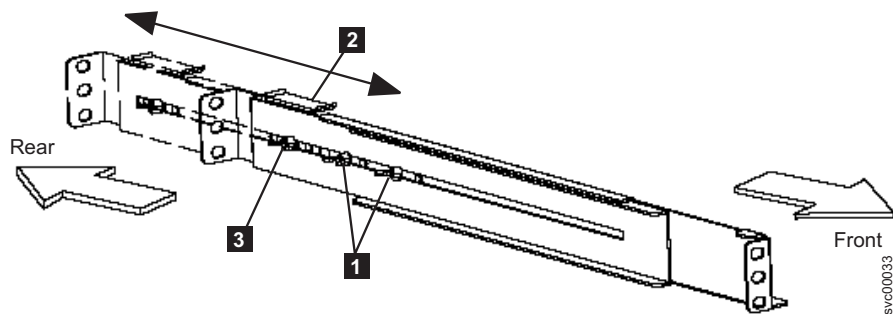

Figure 19. Adjusting the rail depth on the 2145 UPS-1U
4. Loosen the assembly wing nuts (**1** in Figure 19) on both rail assemblies and adjust the rail size to the depth of your rack.
5. Position the rear, hold-down bracket (**2** in Figure 19 on page 32) towards the end of the rail assemblies and tighten the wing nut (**3** in Figure 19 on page 32).